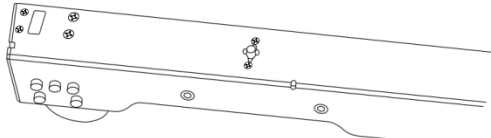

Fig. 04
- 02)** If the Stand Stud Adapter is set as in fig. 04, please press it down and turn clockwise by 90 degrees to keep the screw head line with the slot in the bottom.